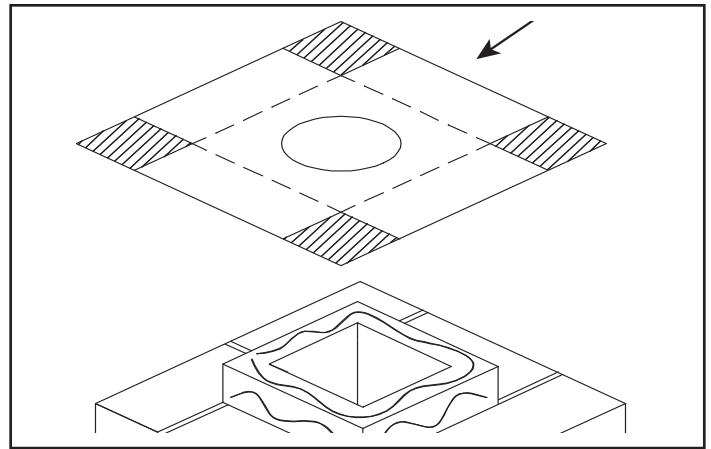

Figure 4.15
3. Secure the flashing to the top of the masonry chimney using a bead of non-hardening sealant-adhesive. If the flashing is larger than the top of the chimney, cut and fold flashing as needed to fit chimney. See Figure 4.15.